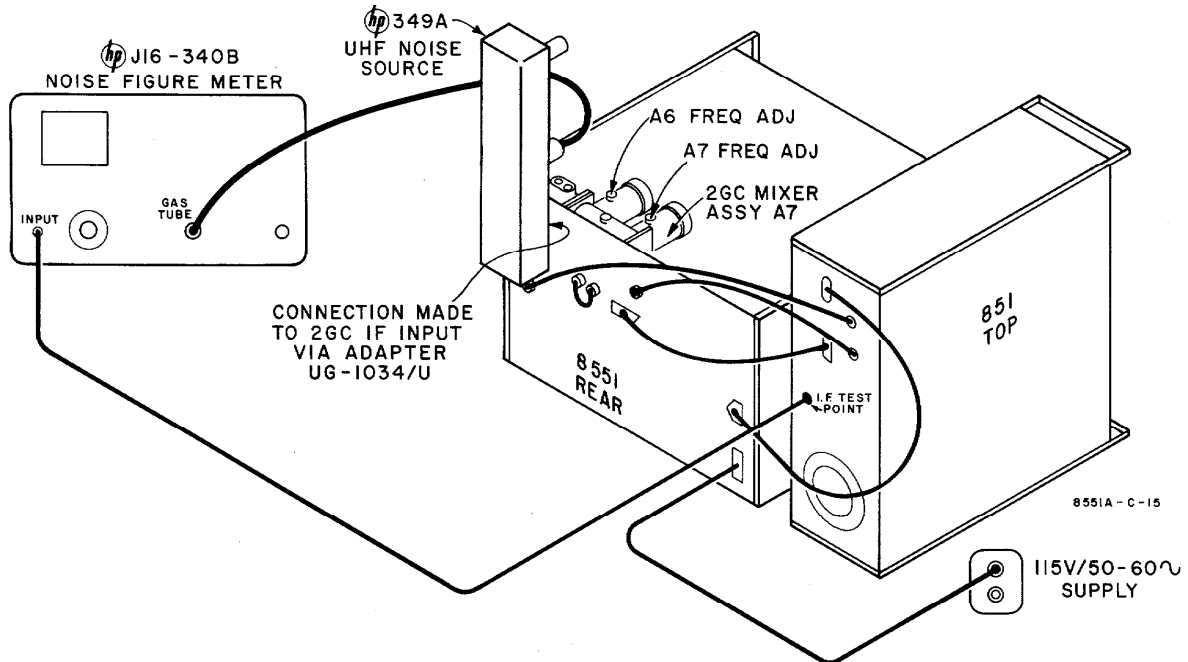
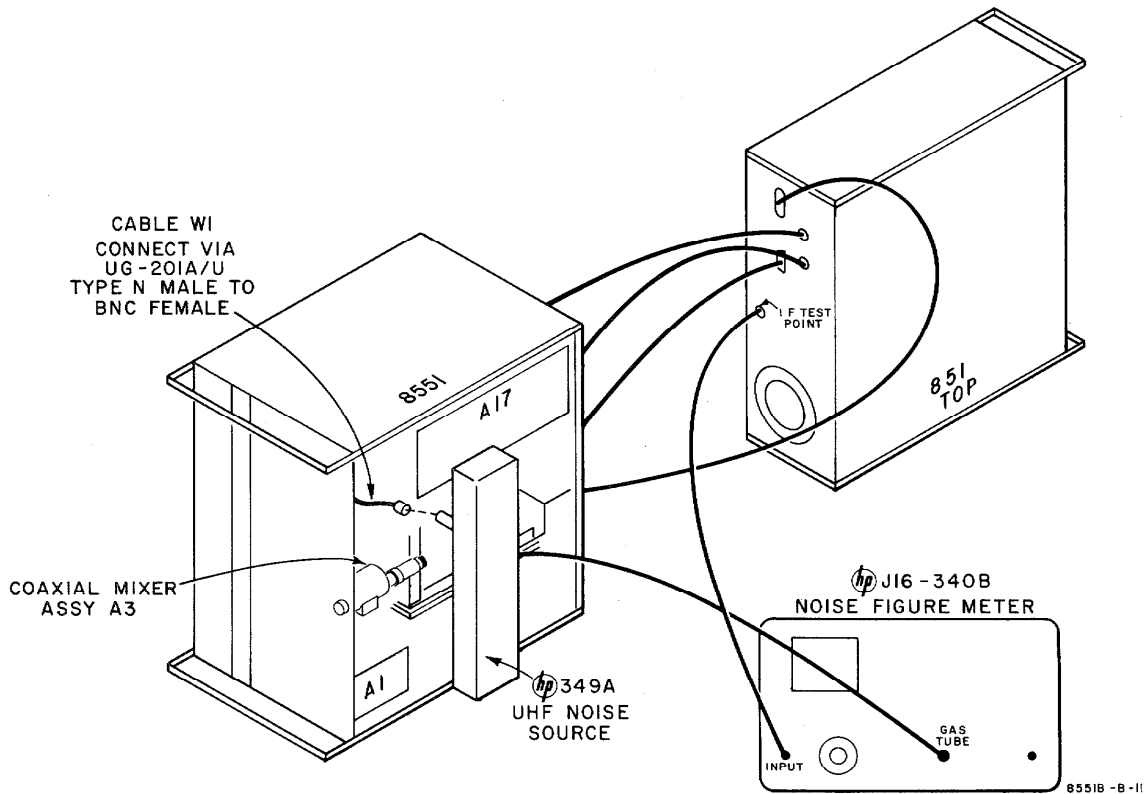
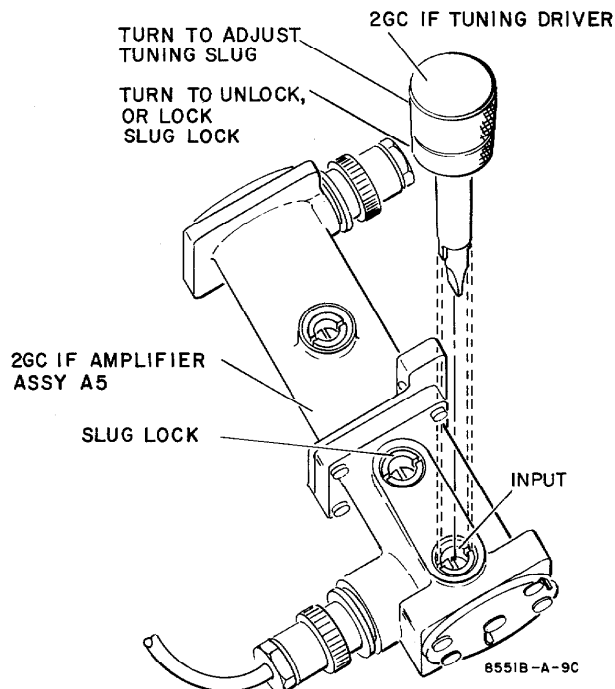

Figure 5-11. Setup, 2GC Mixer A7 Noise Figure Measurement
Figure 5-12. Setup, 2GC IF Amplifier A5 Noise Figure Measurement
Figure 5-13. Using 2GC IF Tuning Driver
g. Tune A6 FREQ ADJ (Figure 5-11) for maximum milliammeter reading.
a. Setup. See Figure 5-11.
- (1) Connect 349A UHF Noise Source to J16-340B Noise Figure Meter.
- b. Disconnect Cable W1 from connector J14 on Coaxial Mixer Assembly A3 (see Figure 5-12).
- d. Measure noise figure (see Paragraph 5-90b, steps (1), (2)). (Noise figure should be < 13 dB.)
- e. If noise figure is more than 13 dB, tune the A, B and C FREQ ADJ tuning slugs. Use a 2 Gc IF Tuning Driver, and work from left to right, with FREQ ADJA (see Figure 6-4) considered as the adjust farthest left. Figure 5-13 shows how to use the 2 Gc IF driver. Unlock the slug lock, adjust each tuning slug for minimum noise-figure indication on the noise figure meter, and lock each FREQ ADJ tuning slug as it is tuned. Repeat the tuning a second time for optimum results. (Noise figure should be  $\leq$  13 dB).
b. Tune A7 FREQ ADJ (Figure 5-11) and all three A5 frequency adjustments (starting with FREQ ADJ A - see Figure 5-13) for maximum signal amplitude on CRT. Use a crowfoot wrench with a well insulated handle to loosen the hex nut on A7.